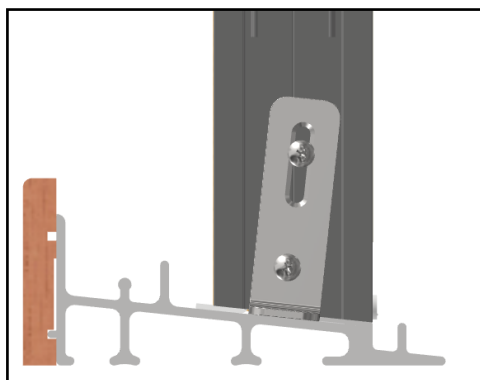
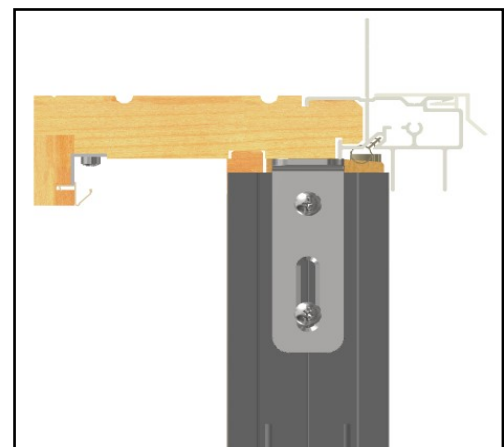

Figure 3
Figure 4
4. Secure the sill clip and the head clip to the stile extension. Clips should sit flush on sill (Fig. 3) and head jamb (Fig. 4).